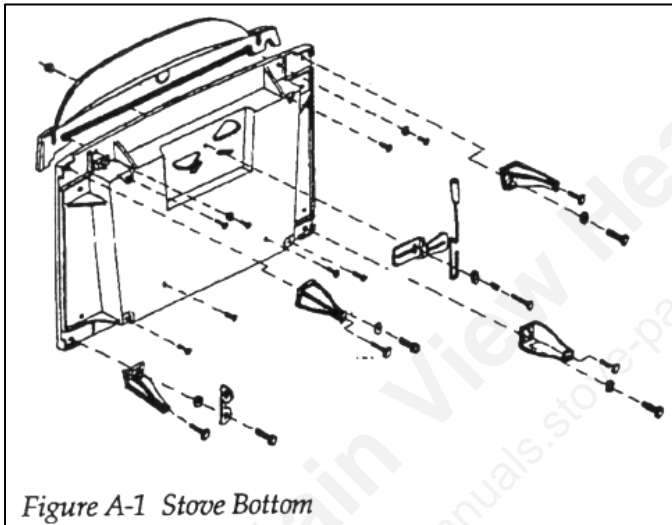

Figure A-1 Stove Bottom
1. Invert the bottom and put it on your re-build stand. Install 6 hex head cap screws, #10 – 24 x 1/2". See **Figure A-1**.